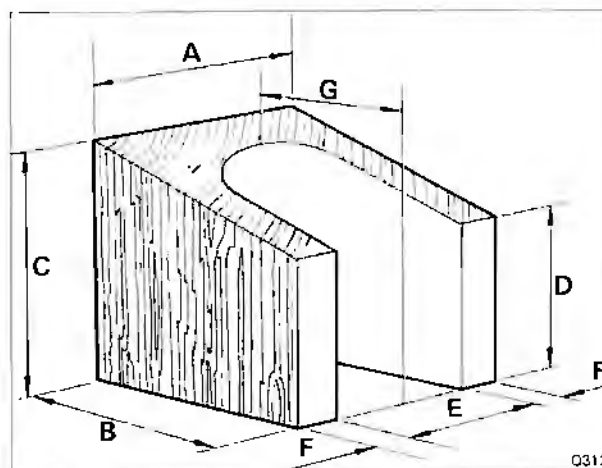

Fig H3-9 Wooden support block
35. Remove the front road springs as described in Section H4. Fit the wooden support blocks (see fig. H3-9) between the bump stops and the lower triangle levers. Lower the car onto its wheels, ensuring that the wooden blocks remain in position.